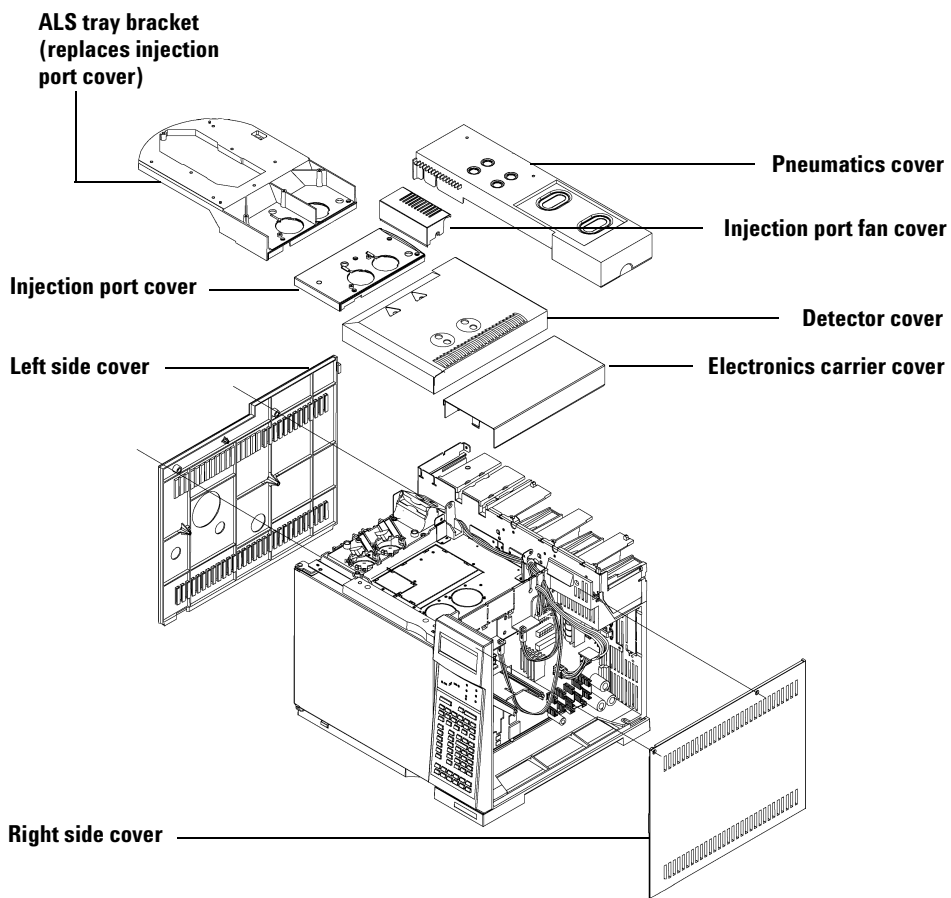

Figure 2 Exploded view of a 6890 printer
- 2 Unsnap and lift off the pneumatics cover (see Figure 2).